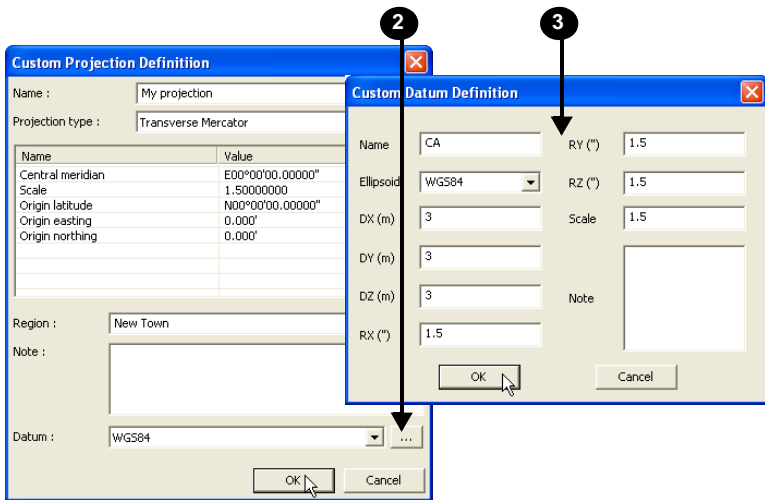

Figure 2-17. Create Custom Datum
2. Click the **Datum browse** button (Figure 2-17).
3. Enter a name for the datum and the following information (Figure 2-17) and click **Ok** to save the datum: